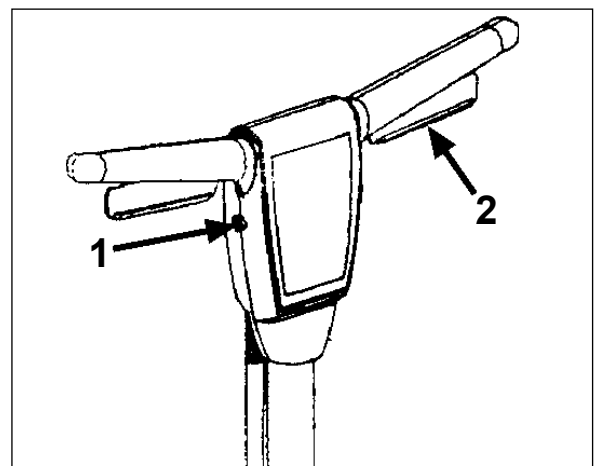

Figure 6
5. Push the interlock button (1), and apply pressure to the levers (2). To stop the machine, release the levers (2). See figure 6.
3. Push the interlock button (1), and apply pressure to the levers (2). To stop the machine, release the levers (2). See figure 6.